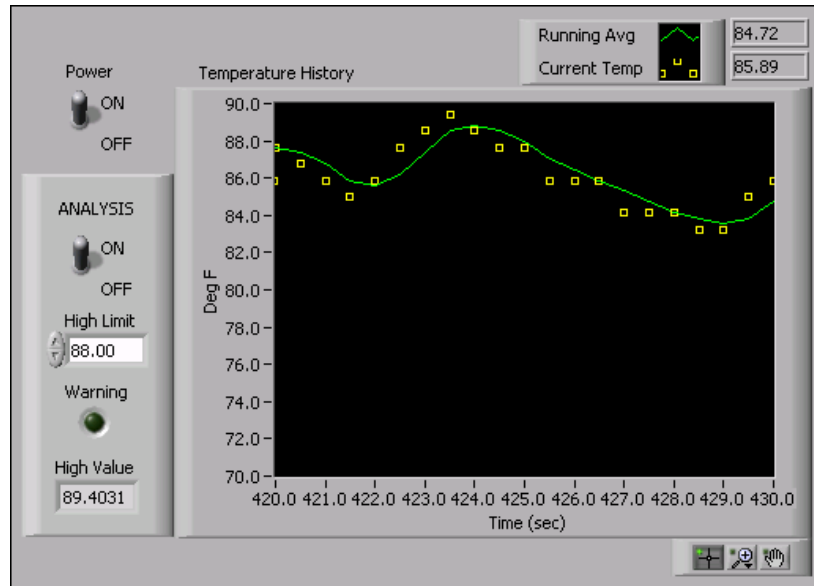

Figure 8.13
2. Modify the front panel as shown in Figure 8.13.